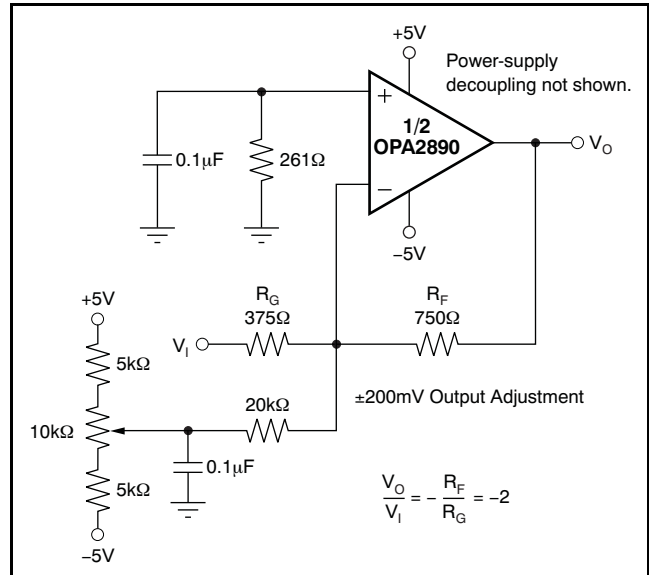

Figure 61. DC-Coupled, Inverting Gain of -2, with Offset Adjustment
A fine-scale output offset null, or dc operating point adjustment, is often required. Numerous techniques are available for introducing dc offset control into an op amp circuit. Most of these techniques eventually reduce to adding a dc current through the feedback resistor. In selecting an offset trim method, one key consideration is the impact on the desired signal path frequency response. If the signal path is intended to be noninverting, the offset control is best applied as an inverting summing signal to avoid interaction with the signal source. If the signal path is intended to be inverting, applying the offset control to the noninverting input may be considered. However, the dc offset voltage on the summing junction sets up a dc current back into the source that must be considered. Applying an offset adjustment to the inverting op amp input can change the noise gain and frequency response flatness. For a DC-coupled inverting amplifier, Figure 61 shows one example of an offset adjustment technique that has minimal impact on the signal frequency response. In this case, the dc offsetting current is brought into the inverting input node through resistor values that are much larger than the signal path resistors. This configuration ensures that the adjustment circuit has minimal effect on the loop gain and thus, the frequency response.
d) Connections to other wideband devices on the board may be made with short, direct traces or through onboard transmission lines. For short connections, consider the trace and the input to the next device as a lumped capacitive load. Relatively wide traces (50mils to 100mils, or 1.27mm to 2.54mm) should be used, preferably with ground and power planes opened up around them. Estimate the total capacitive load and set R_S from the plots of Figure 15 and Figure 36. Low parasitic capacitive loads (< 3 pF) may not need an R_S because the OPA2890 is nominally compensated to operate with a 2pF parasitic load. Higher parasitic capacitive loads without an R_S are allowed as the signal gain increases (increasing the unloaded phase margin; see Figure 61). If a long trace is required, and the 6dB signal loss intrinsic to a doubly-terminated transmission line is acceptable, implement a matched impedance transmission line using microstrip or stripline techniques (consult an ECL design handbook for microstrip and stripline layout techniques). A 50 Ω environment is normally not necessary on board, and in fact, a higher impedance environment improves distortion as shown in the distortion versus load plots. With a characteristic board trace impedance defined (based on board material and trace dimensions), a matching series resistor into the trace from the output of the OPA2890 is used as well as a terminating shunt resistor at the input of the destination device. Remember also that the terminating impedance is the parallel combination of the shunt resistor and the input impedance of the destination device; this total effective impedance should be set to match the trace impedance.